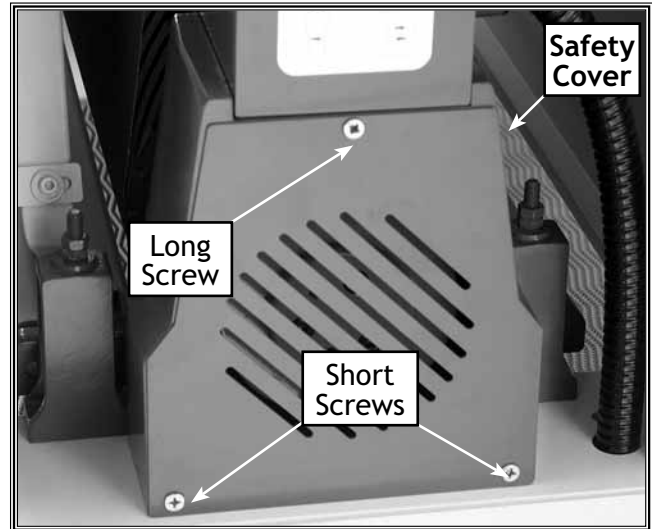

Figure 43. Safety cover and mounting screws.
3. Remove the three screws and the safety cover for access to the upper pulley. See **Figures 43** and **44**.